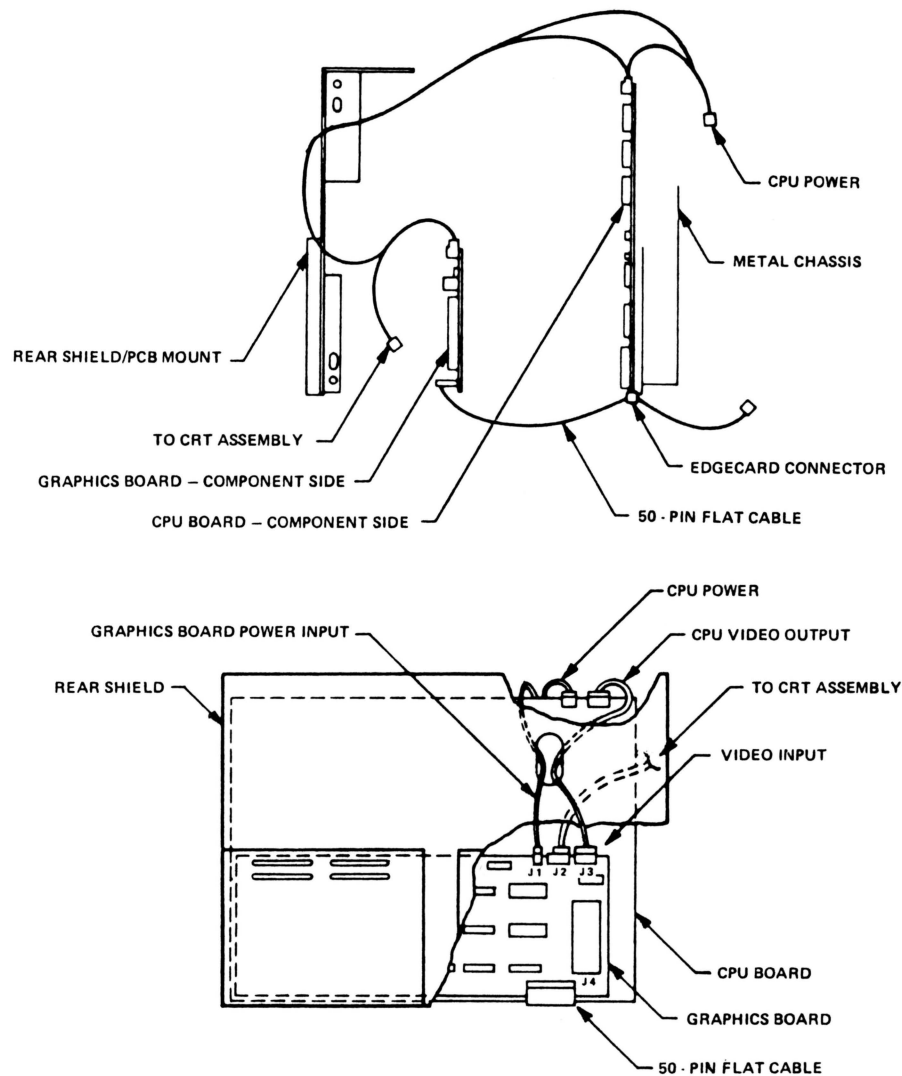

Figure 1 PC Board Interconnections
1. Remove all cables connecting the CPU Board: the power supply cable, video, keyboard, and cassette cables. If applicable, also remove the RS-232 and FDC inter-connect cables. (Refer to Figure 1.)
1. Connect the 50-pin flat cable to the CPU Board at J2 (the I/O Bus Connector) and to the Graphics Board at J4. The middle edge-card connector plugs into J2. (Refer to Figure 1.)